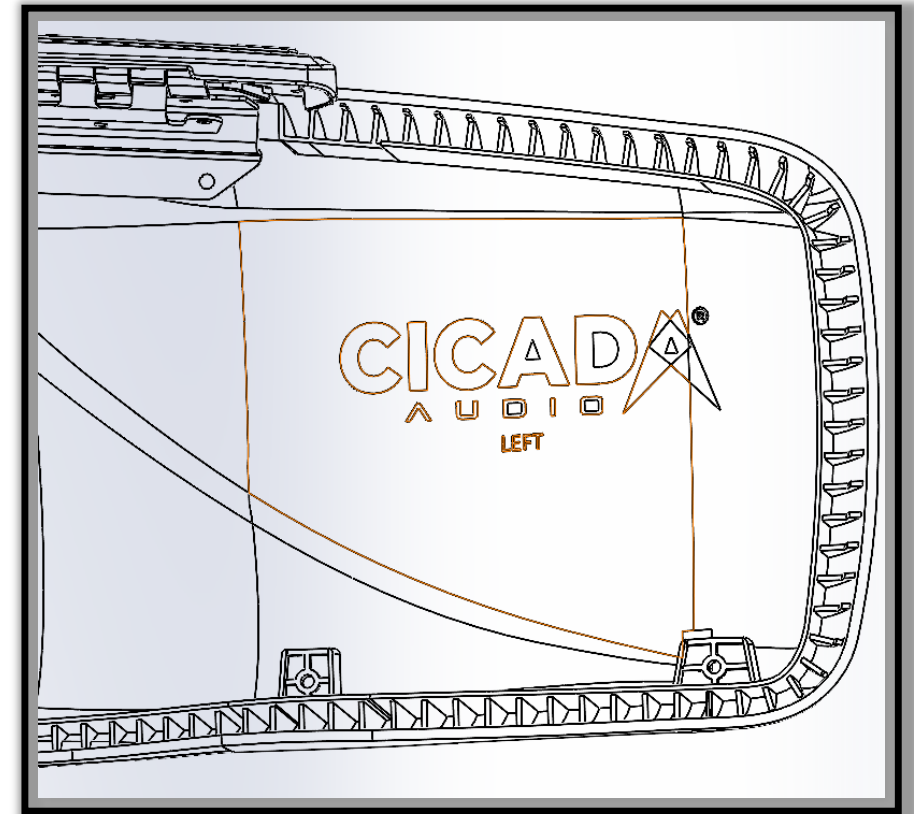

Figure 14 – Lid Gasket
- Apply Adhesion Promoter to outer solid wall of channel [**ORANGE**], (see Figure 14).